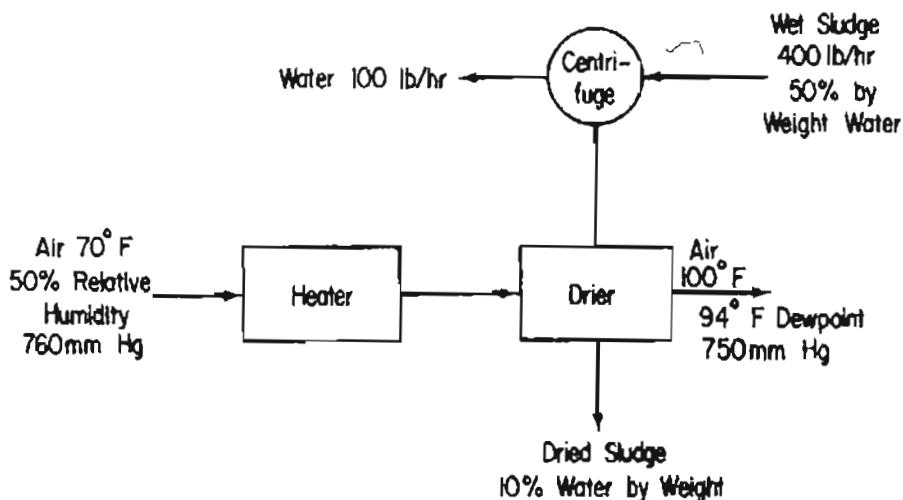

Figure P18.24
- *18.24 A wet sewage sludge contains 50% by weight of water. A centrifuging step removes water at a rate of 100 lb/hr. The sludge is dried further by air. Use the data in Figure P18.24 to determine how much moist air (in cubic feet per hour) is required for the process shown.